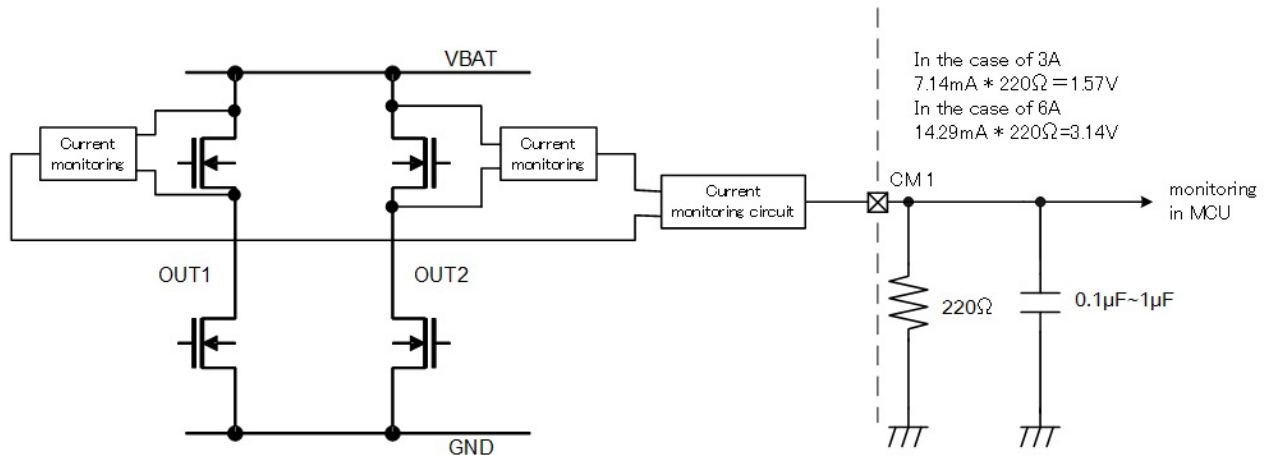
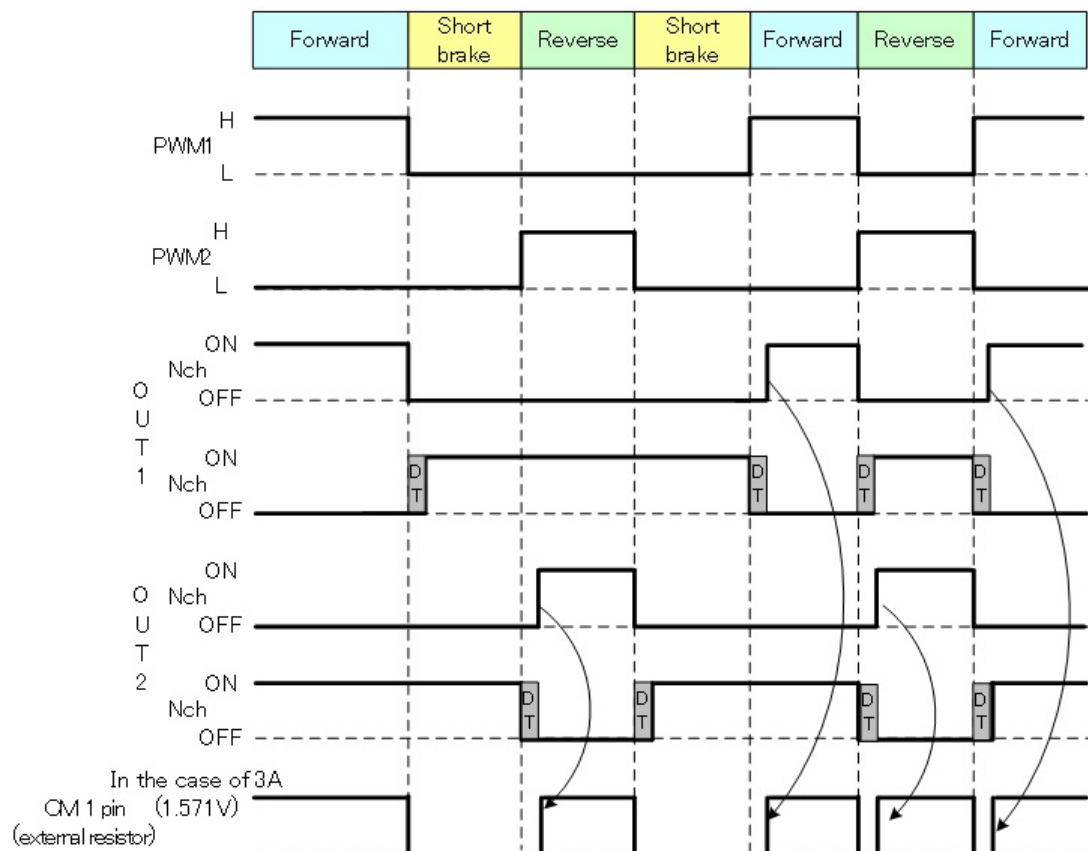

Figure 7.18 High-side current monitoring configuration
Figure 7.19 High-side current monitoring timing chart
7.8. High-side current monitoring: CM pin (Figure 7.18, Figure 7.19, Figure 20, Figure 21)